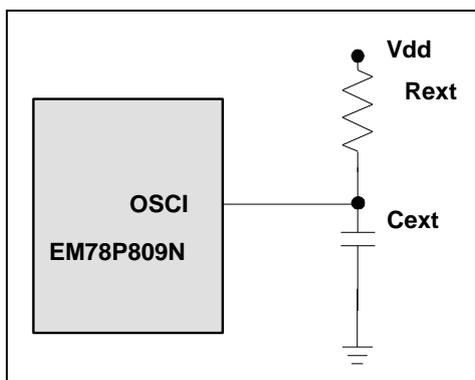

Figure 5-33 External RC Oscillator Mode Circuit
The circuit shown in Fig. 5-33 use an external RC to produce the reset pulse. The pulse width (time constant) should be kept long enough for VDD to reach minimum operation voltage. This circuit is used when the power supply has slow rise time. Because the current leakage from the /RESET pin is about  $\pm 5\mu\text{A}$ , it is recommended that R should not be greater than 40K. In this way, the /RESET pin voltage is held below 0.2V. The diode (D) acts as a short circuit at the moment of power down. The capacitor C will discharge rapidly and fully. Rin, the current-limited resistor, will prevent high current or ESD (electrostatic discharge) from flowing to pin /RESET.